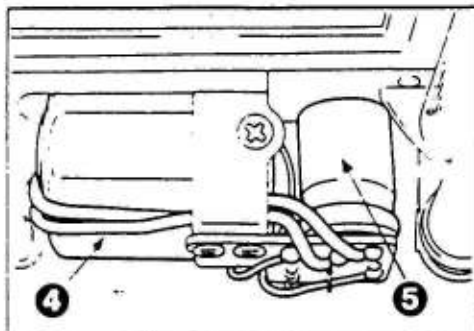

Fig. 2
- ④ Does the moving coil short? (See Fig. 2.)